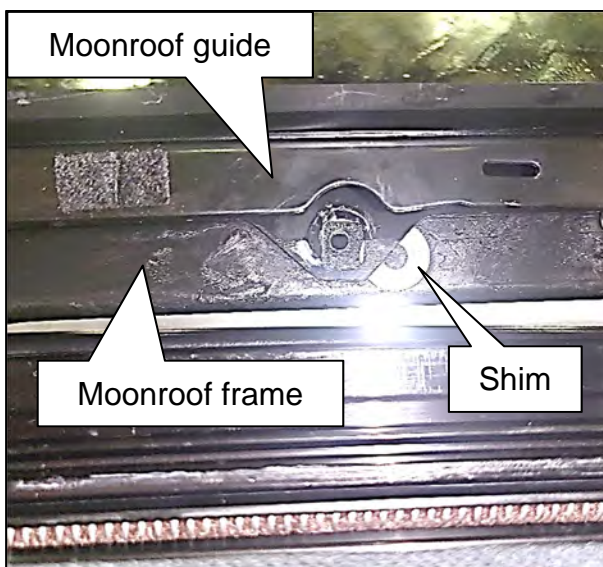
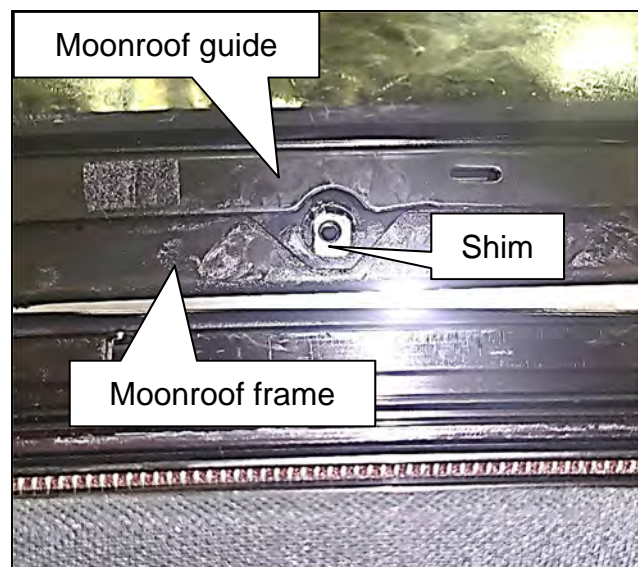

Figure 5
Figure 6
6. Add one (1) shim from **PARTS INFORMATION** under each middle and rear mounting screw on both LH and RH moonroof guides.
- Slide the shim in between the moonroof frame and the moonroof track, as shown in Figure 5 and Figure 6.